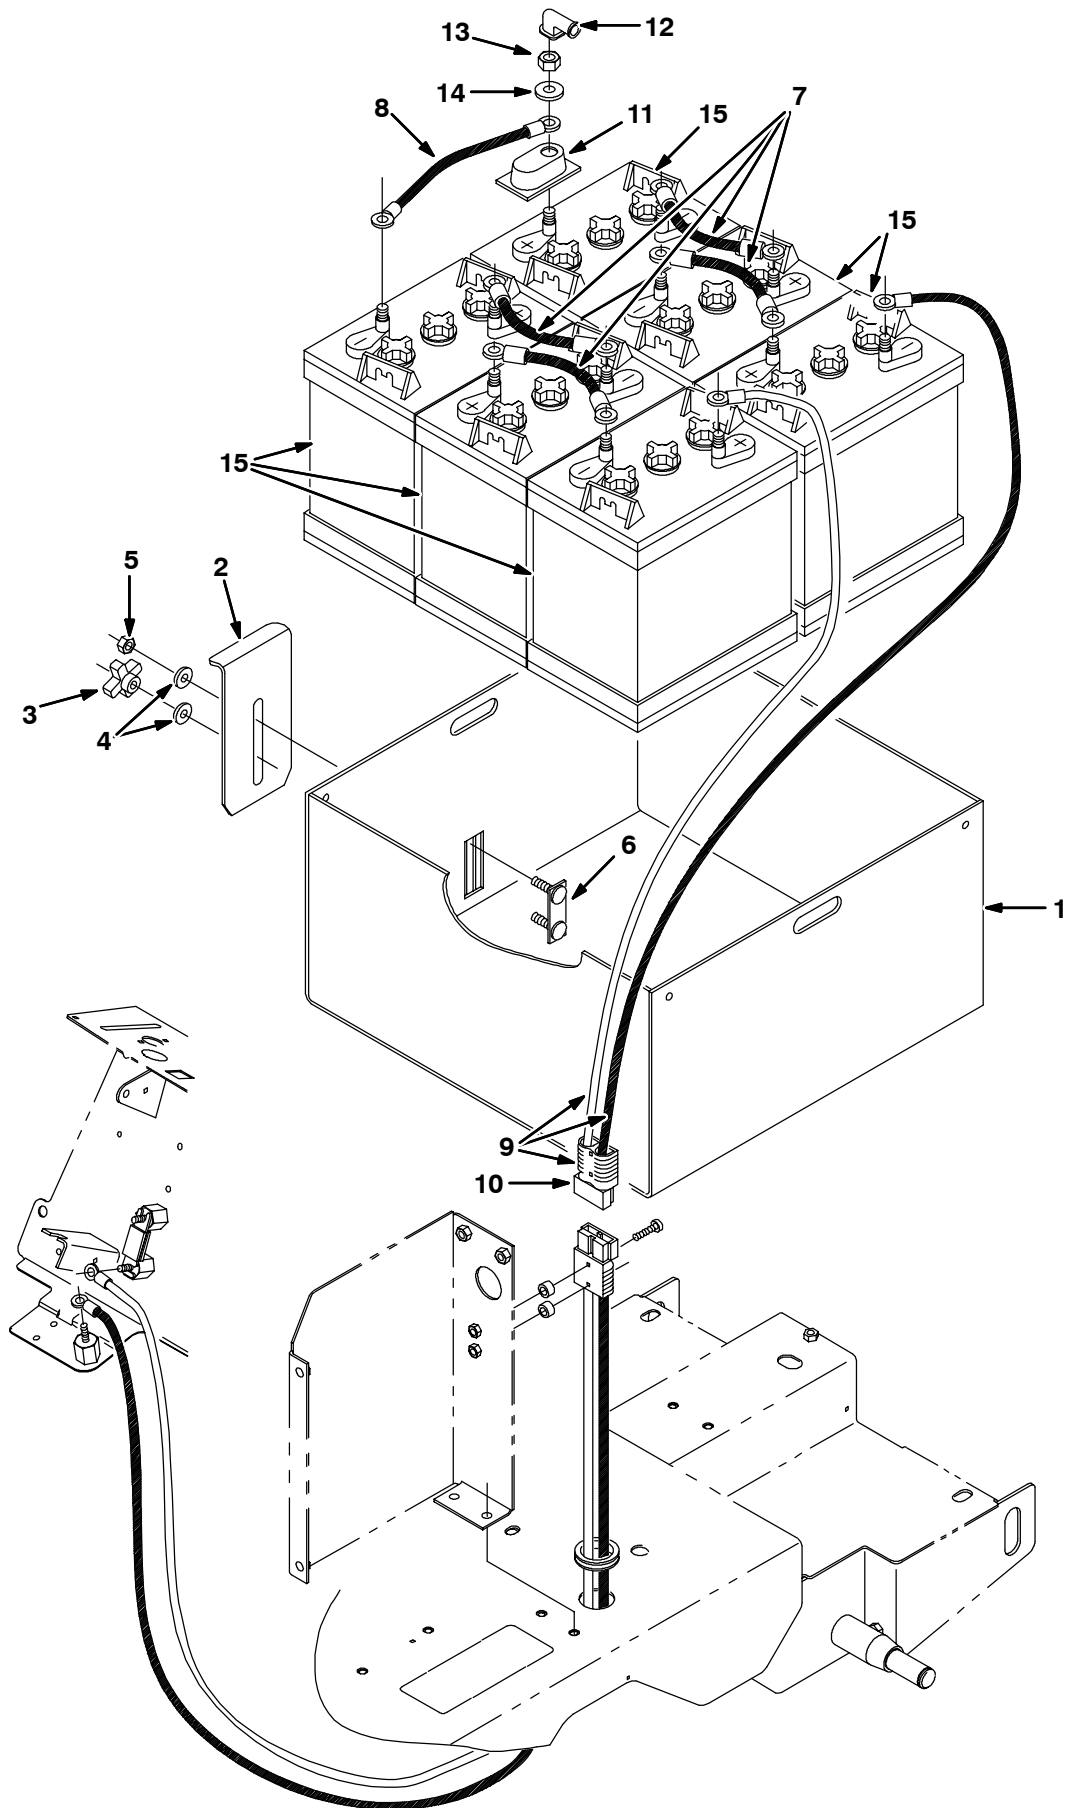

FIG. 2 - ROLLOUT BATTERY EXTRA CASE KIT 390833
1. Position the six batteries (15) into the battery housing (1) in the configuration shown in figures 2 and 3. (Refer to FIG. 2 and 3)
2. Place a battery terminal cover (11) over each battery terminal. (Refer to FIG. 2)
3. Slide a 90° cover boot (12) over each end of each battery cable. (Refer to FIG. 2)
4. Using the configuration shown in figures 2 and 3, connect the battery terminals using the battery cables (7) and (8), washers (14) and hex nuts (13). Slide the battery connector covers over the battery terminals. (Refer to FIG. 2 and 3)
5. Connect the end of the battery cable assembly (9) to the machine connector (20). (Refer to FIG. 2)